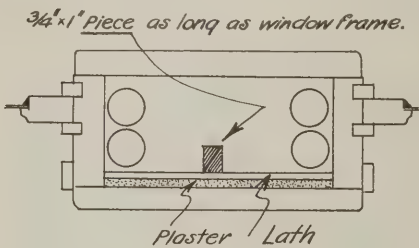

Fig. 9—Mullion construction for warmth
W. W. M. sends us sketch, Fig. 9, of which he says: "The illustration shows how I plaster between the mullion frames to get a tighter joint. First cut a $\frac{3}{4}$ x1 piece the right length, and nail pieces of lath on it the full length of the stick. This is fixed at each end, and by driving a nail here and there through the jamb into the lath. It is a great help in keeping out the cold."